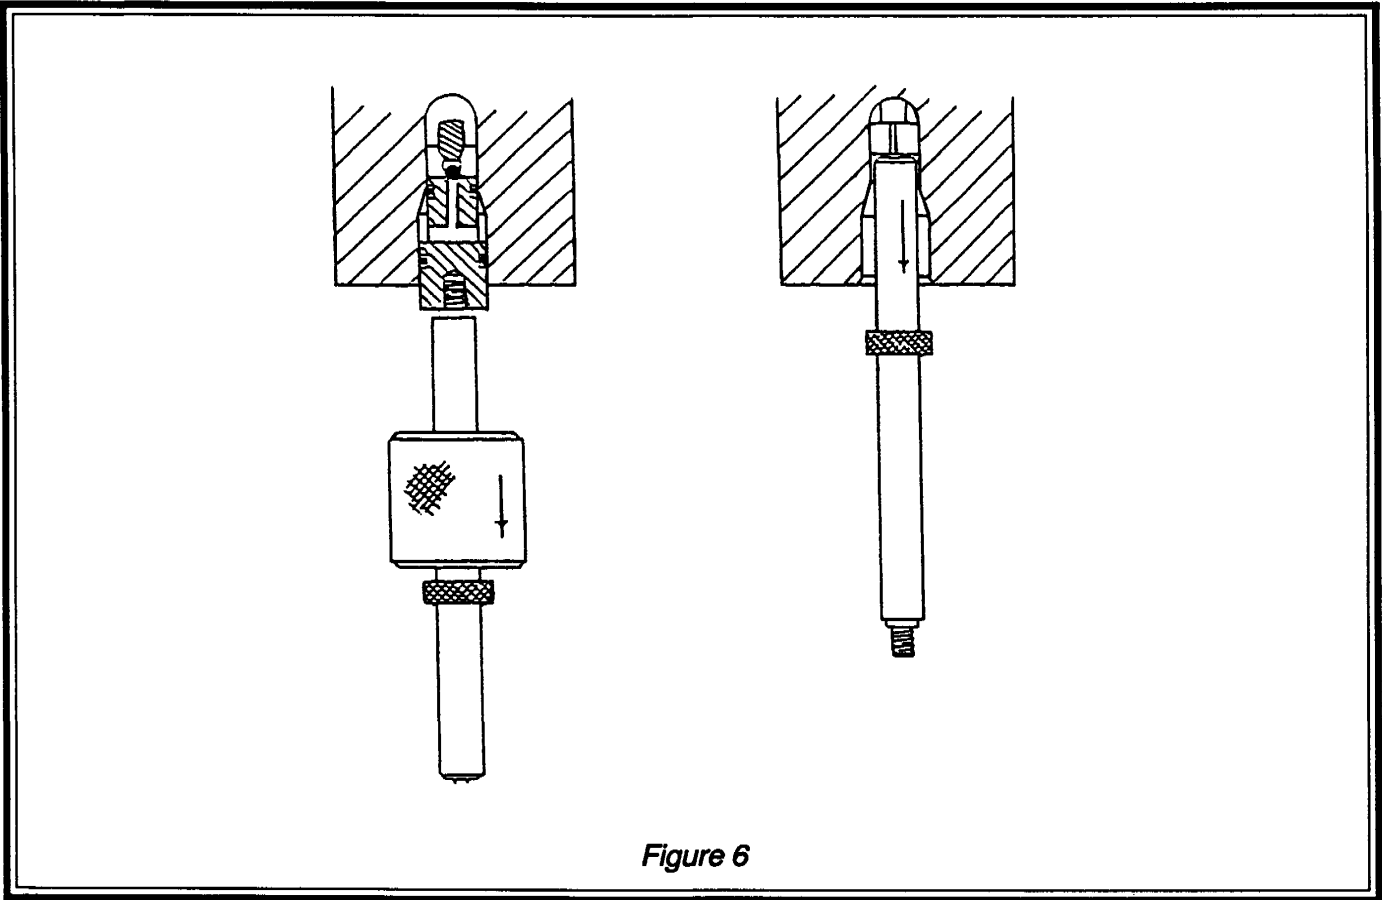

Figure 6
1. Using the torque wrench (T2) and the hex driver (T4), break loose the eight socket-head cap screws (21) holding the bottom plate (12) to the cylinder.
3. Place the threaded end of the pulling tool stem through the slide hammer and thread the stem into the bottom plug (13). See Figure 6. Rap the slide hammer to pull the bottom plug. Be ready to catch the ceramic ball valve (17) and ball stop (18) as the plug is removed. If the ball stop does not drop out, it may be pulled out with the magnetic end of the pulling tool. If the ball stop hangs up, use a screwdriver in the slot to rotate and loosen it.